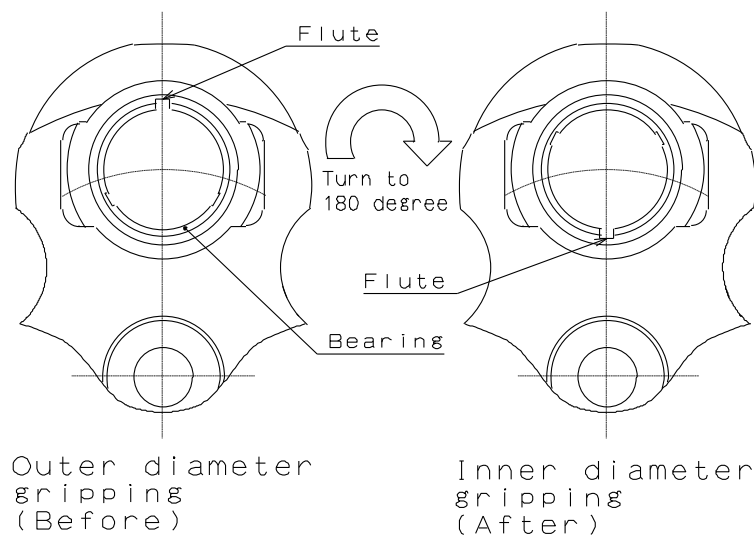

Fig.8
7. Turn the bearing to 180 degree horizontally to aim the flute of bearing. (Refer to Fig.8)